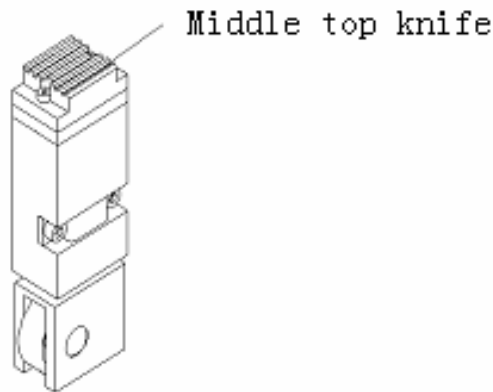

Fig5-2
f. Used bailing strap is too thin so that top pressure is not enough. If using this bailing strap, spacer less than 0.5mm should be added under middle top knife to thicken it (See Fig5-2)
f. Middle top knife is not fixed firmly: Middle top knife on the middle body is not fixed firmly and generates displacement, closely leaning against another knife board. Reset can't reach the position and causes T guide plate out of the position. Strap head jumps no direction due to no guide of the guide plate and leads to the situation that strap is not fed to the position. Therefore after adjusting or disassembly middle top knife should fix firmly (See Fig5-2).